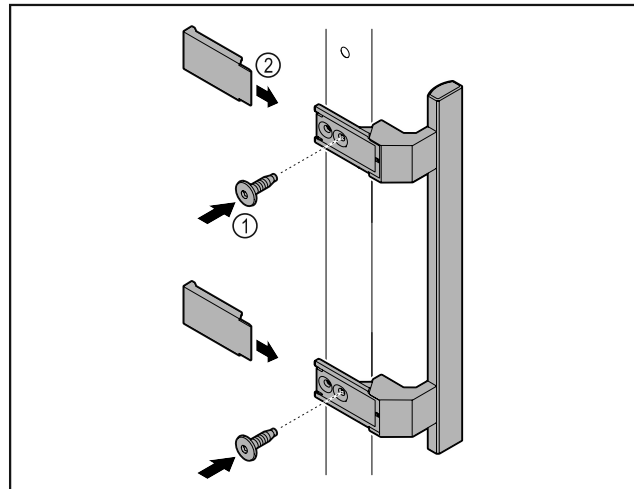

Fig. 57
- Attach handle from accessory kit to the door using the screws Fig. 57 (1) supplied.
- Put on cover Fig. 57 (2).